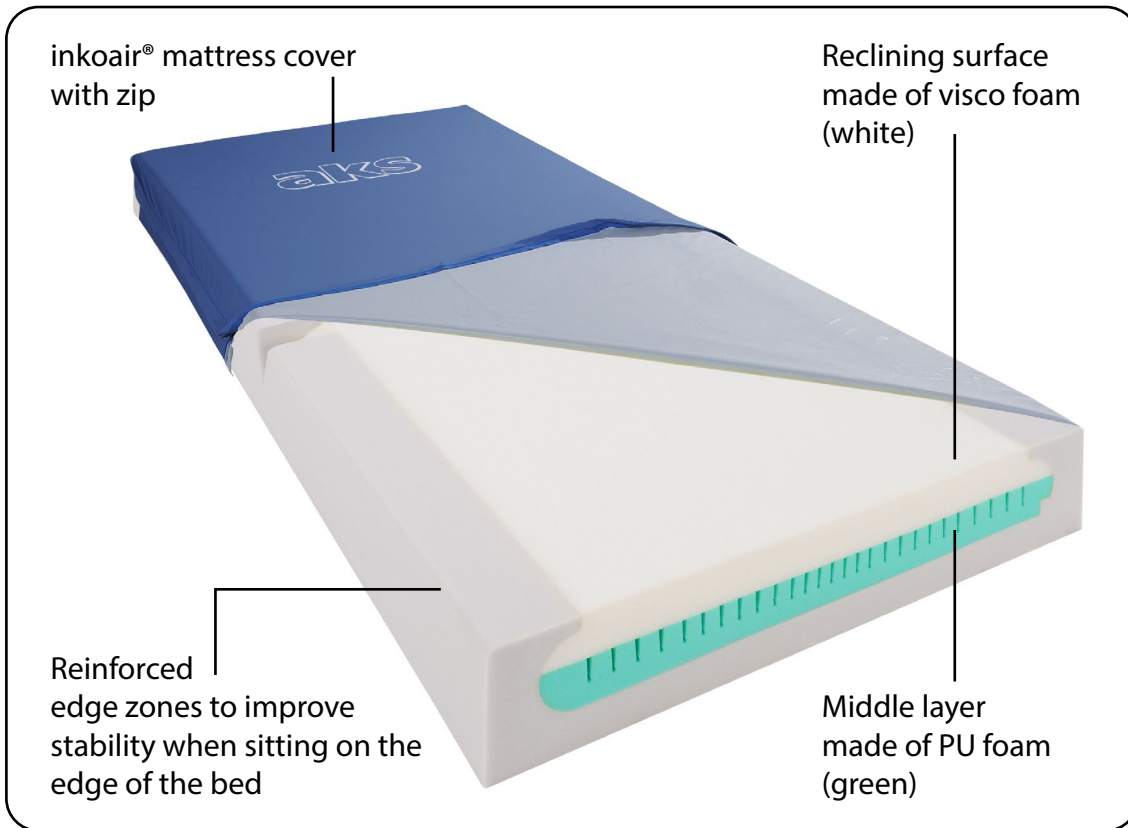
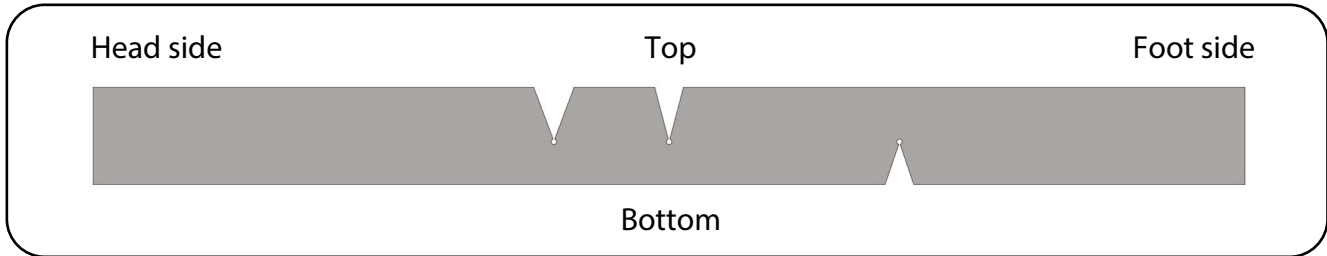

Fig. 5.01 - aks-viscoplot
Fig. 6.1.01 - Top/bottom, mattress cross-section with incisions
The soft positioning mattress is divided into four sections by incisions (Fig. 5.01 and Fig. 6.1.01). This enables optimal adjustment to the adjustable reclining surface of the care bed. This allows the mattress to adapt better to the course of the body's physiological stretching and bending mechanisms when the reclining surface is adjusted. The patient support pressures are thereby also reduced in the various reclining surface positions.
- The foam layer cut twice in the edge area must be visible, points upwards and is the reclining surface of the mattress (Fig. 6.1.01).
A distinction must be made between the head and foot side of the mattress when positioning! The head side is indicated by the position of the incisions. The two incisions on the top of the mattress must be near the head of the bed (Fig. 6.1.01).